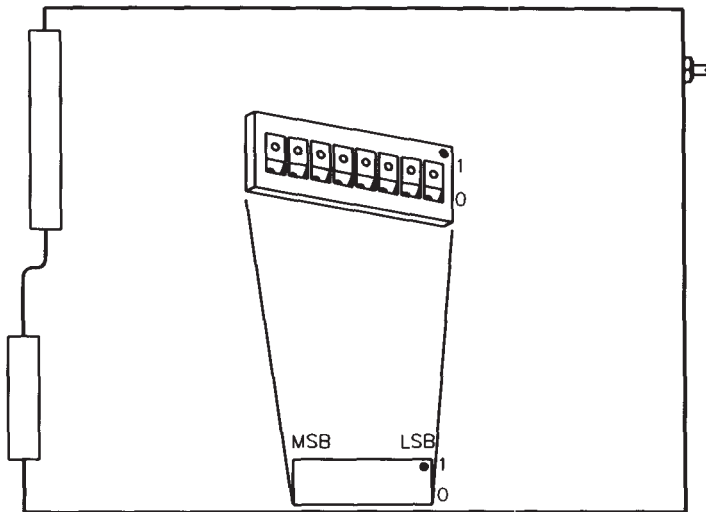
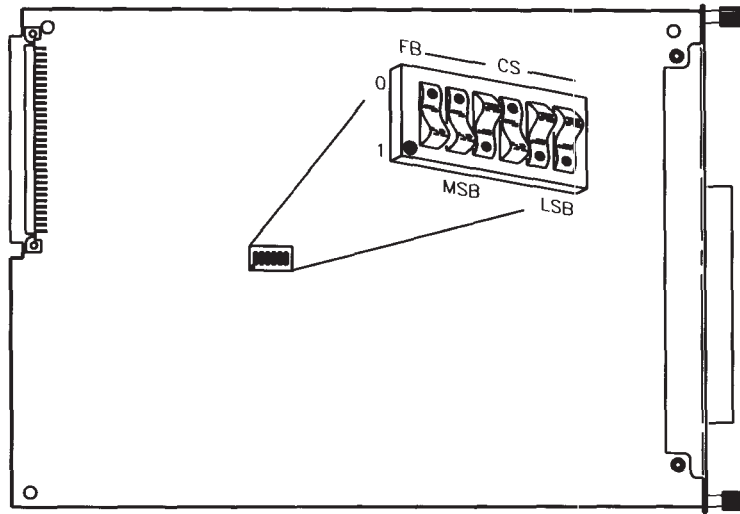

Figure 5-40.
Figure 5-41.
If this is the first (or only) LGB card you are installing and you want to use the Graphics Display Station as the system console, you can skip to step 3. Your LGB interface card has been preset to an internal addressing mode (as shown in Figure 5-40 and Figure 5-41).
- a. Find the set of six switches labeled “SW1” on the HP 98724A/25A interface card (see Figure 5-40 and Figure 5-41). The switch labeled “FB” determines the Frame Buffer address, and the other five switches labeled “CS” (for Control Space) determine the interface’s select code.